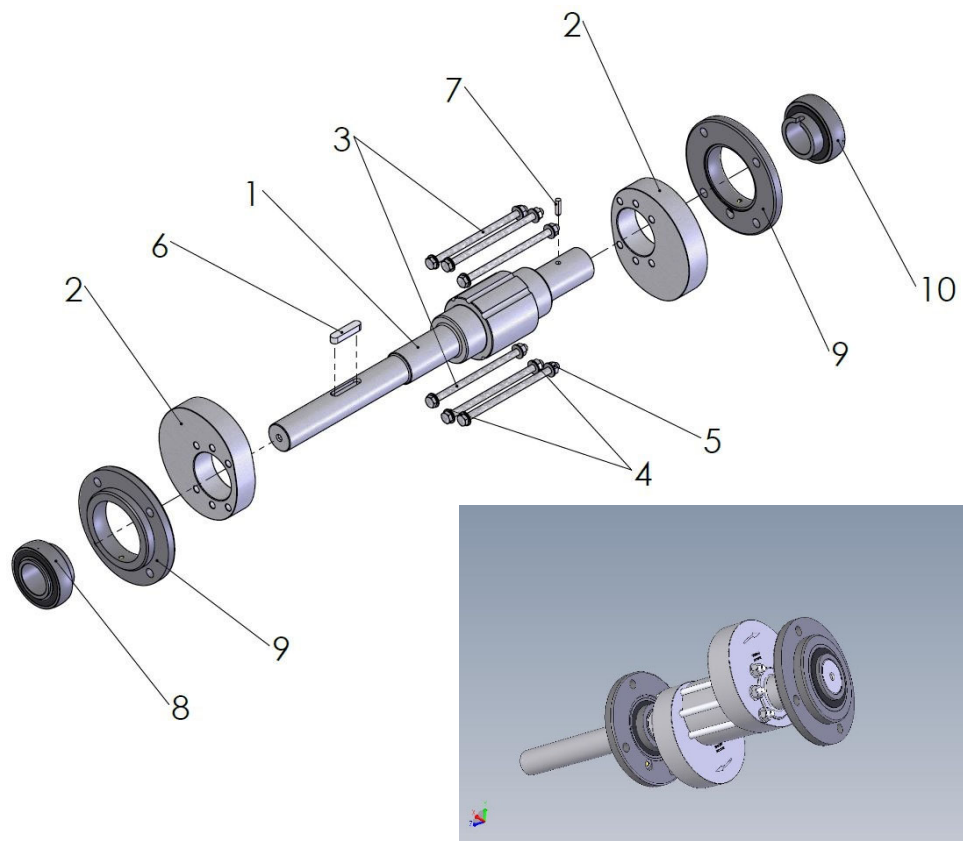

Fig. 8-5: Exploded-view drawing – drive train
- The item numbers in the work steps refer to Fig. 8-5: Exploded-view drawing – drive train.